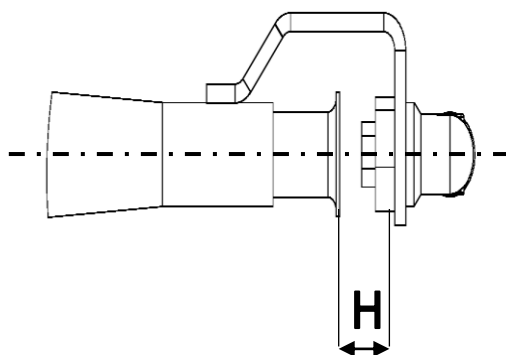

Fig. 14
• Adjusting Primary Air (Fig.14)